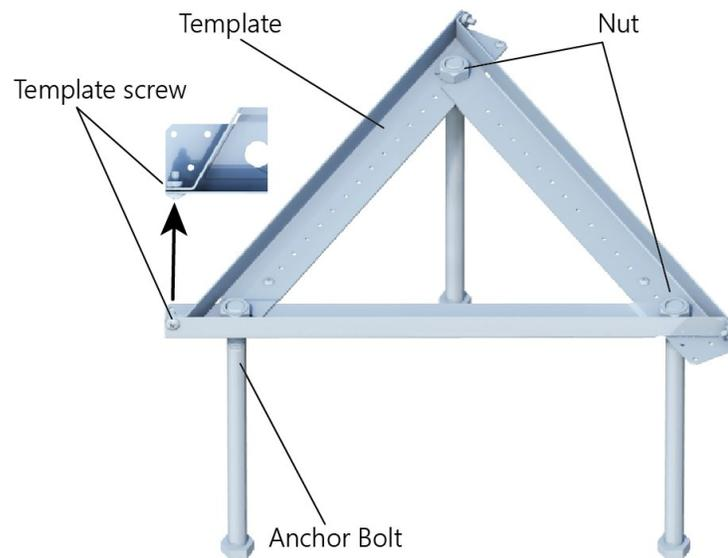

FIGURE 7-13. Template assembly
2. Assemble the template and anchor bolts as shown in FIGURE 7-13 (p. 20). Each template piece is secured to the next with a template screw.